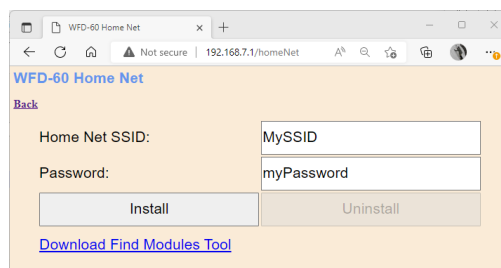

Figure 12 The Home Net page of the WFD-60. Enter the Correct SSID of your Router and its Password.
- (9) Hit the Back hyperlink to return to the Main Menu then click Home Net. Type the SSID of your home net router and its password, in Figure 12, exactly as you did for the WDMI-32 in your loco. Then tap Install. The WFD-60 should reset and connect to your home-net router. The green LED should light continuously.